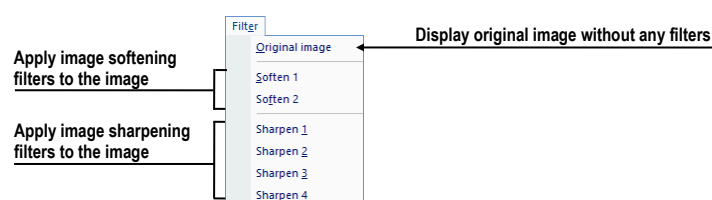

Figure 37 – Filter menu
- **Filter** – filters for image softening or sharpening in the current view (see Figure 37).